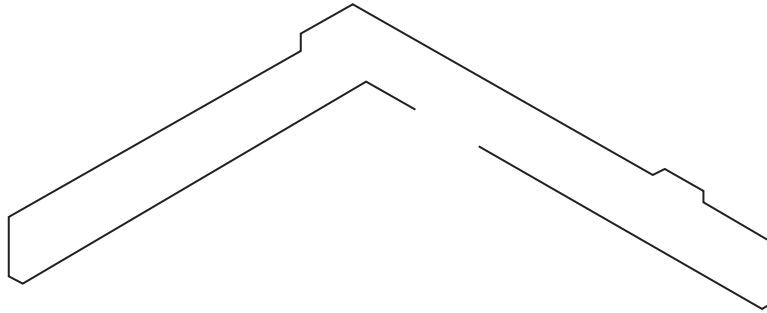

Figure 5. Power Cabinet Template
- 5 Lay the power transfer cabinet template (if used) over the conduits, in one corner of the pad, to locate the corner as shown in Figure 5 on page 8.